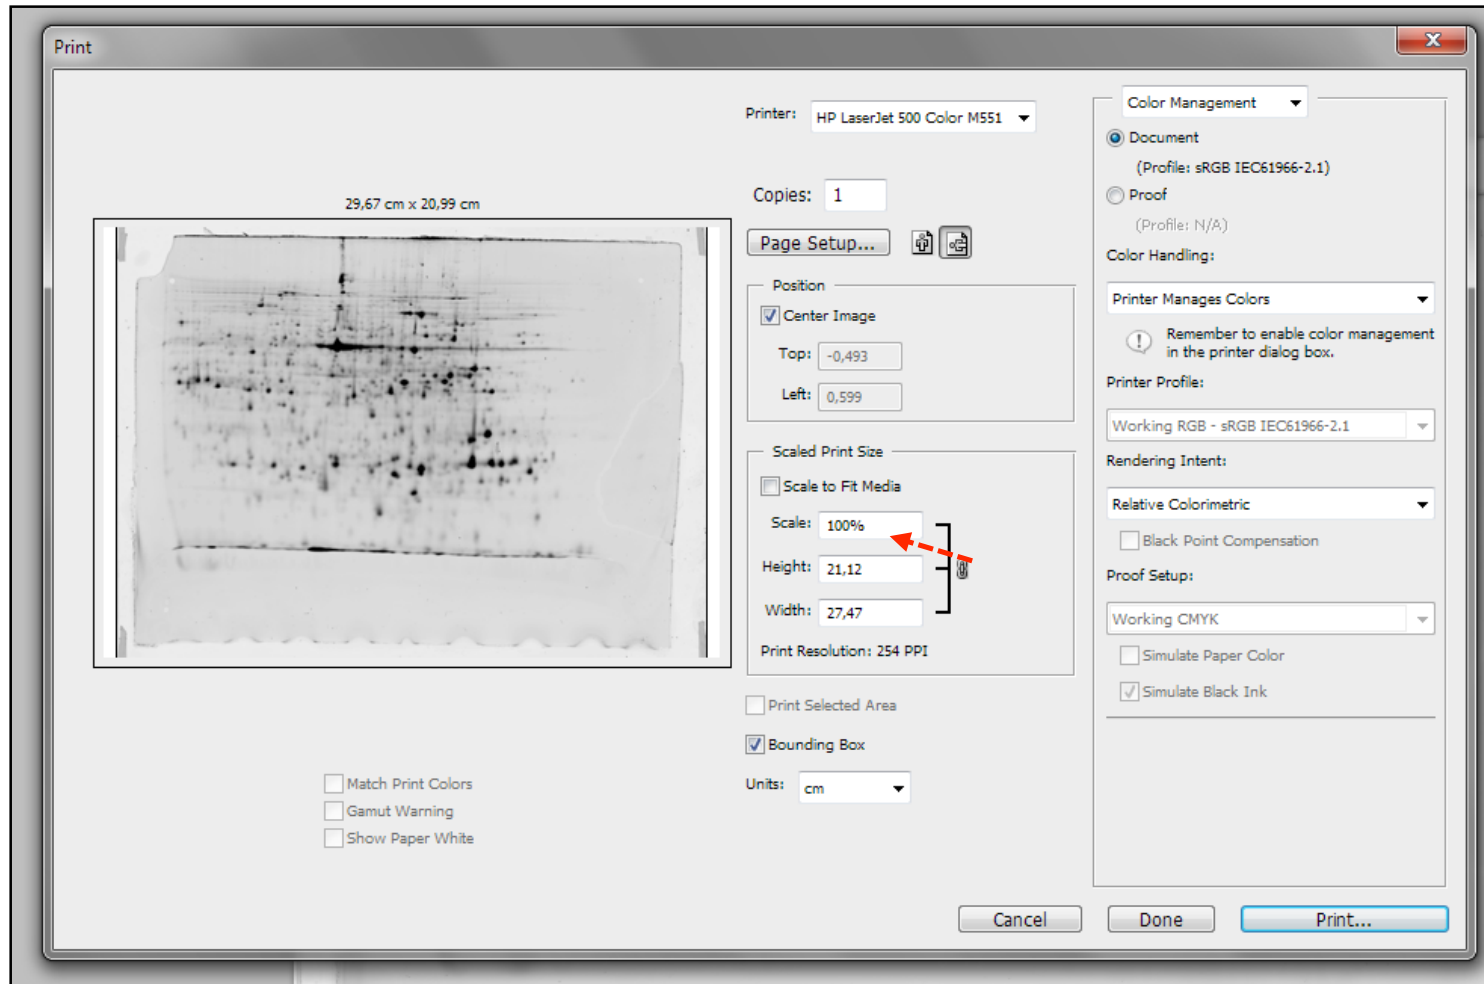

Fig. 3: Printing settings (screen shot)
3. Print your picking template. Make sure to set the scale for printing to 100% (Fig. 3).